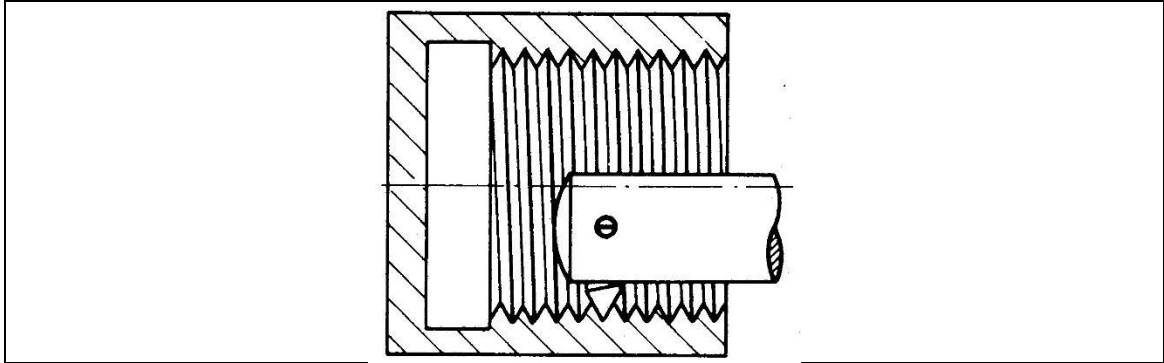

FIGURE 1.12
1.12 What type of lathe method is shown in FIGURE 1.12?